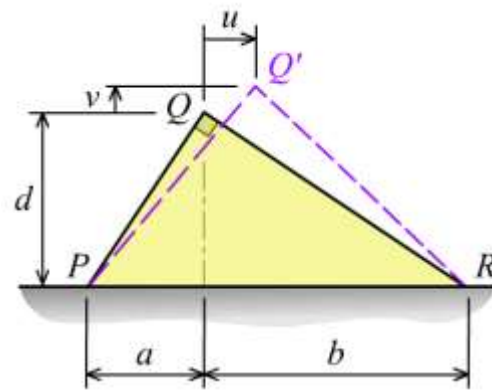

FIGURE P2.12
**P2.12** A thin triangular plate  $PQR$  forms a right angle at point  $Q$ . During deformation, point  $Q$  moves to the right by  $u = 0.8$  mm and upward by  $v = 1.3$  mm to new position  $Q'$ , as shown in Figure P2.12. Determine the shear strain  $\gamma$  at corner  $Q'$  after deformation. Use  $a = 225$  mm,  $b = 455$  mm, and  $d = 319.96$  mm.